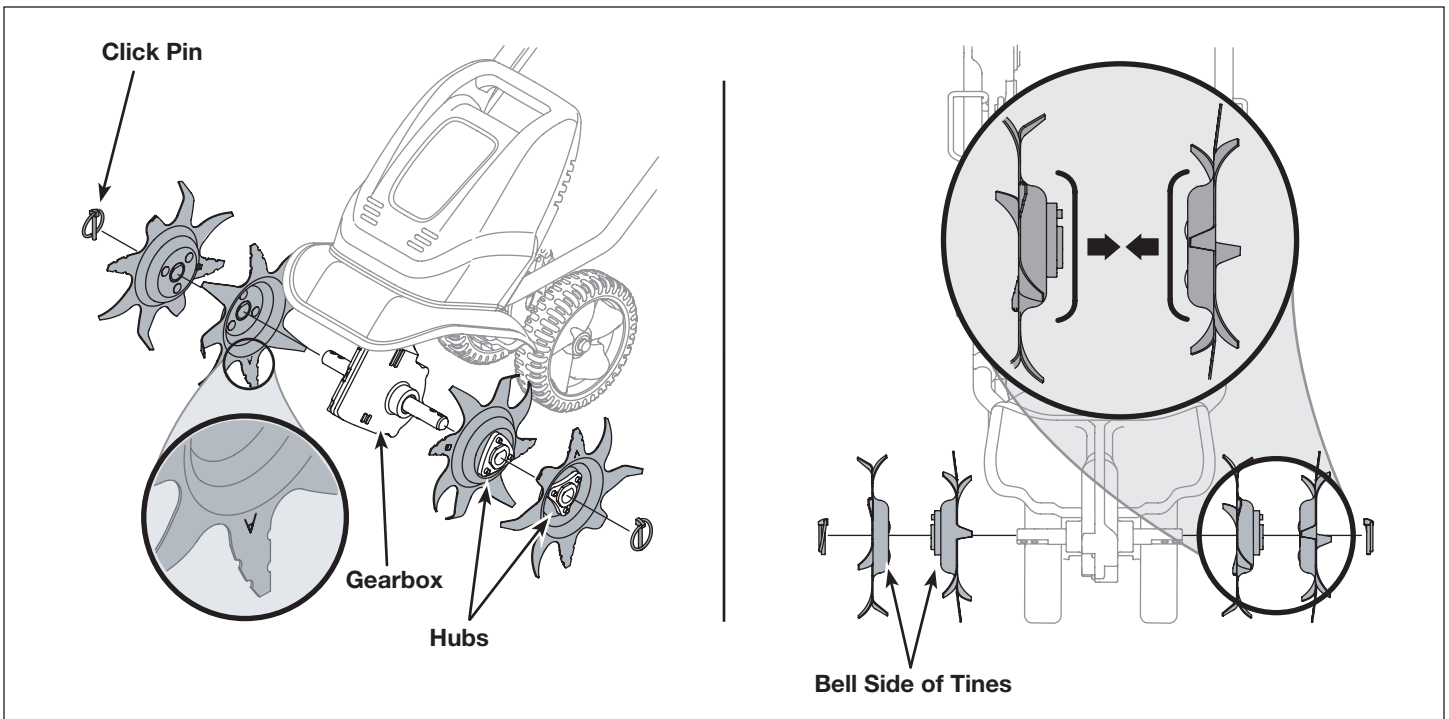

Fig. 9
**NOTE:** Each tine assembly is stamped either "A" or "B" (Fig. 9). Note each tine's location on the shaft for easier reassembly
- The bell sides of both tine assemblies (on each shaft) should face each other (Fig. 9).
- The hub of each tine assembly (Fig. 9) should face outward (away from the cultivator's gearbox).